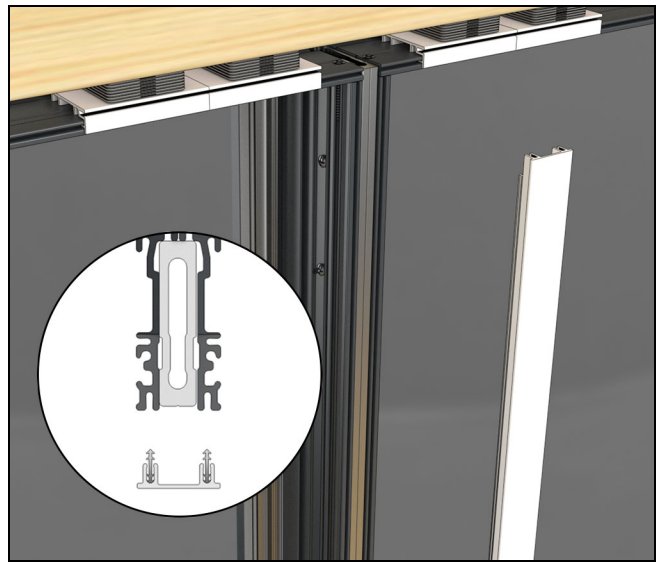

Figure 35
5. Apply the interior aluminum covers. These are barbed on and can be seated with a rubber mallet. Make sure the covers are flush to the interior accessory kerf. See Figure 35.